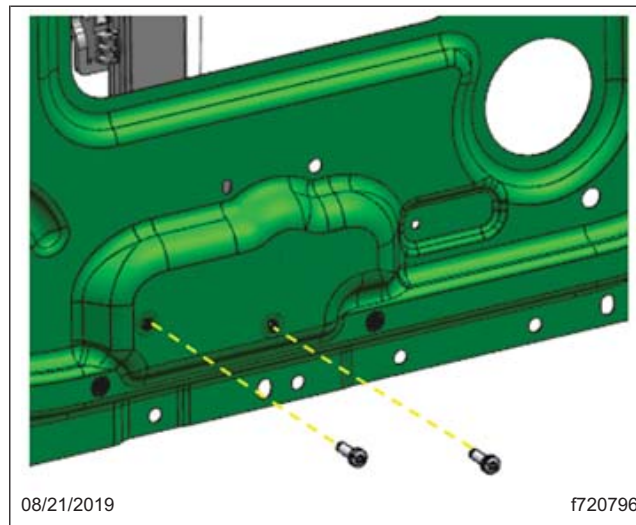

Fig. 12, Screws Fastening Assembly to Lower Inner Door Panel
- 7.2 Fasten the regulator assembly to the inner door panel with two bolts. See Fig. 12. Torque bolts to 5 ± 1 lbf-ft (7 N-m).